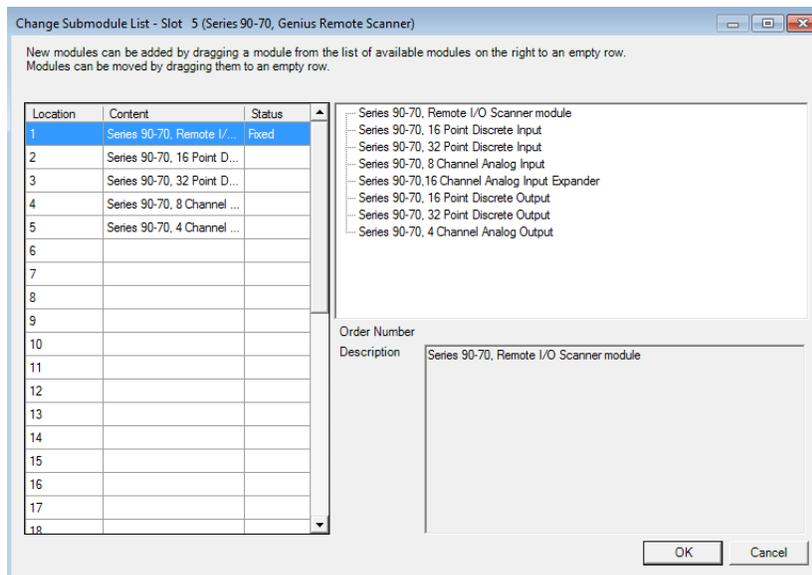

Figure 18: Populating Slots in S90-70 Rack Controlled by Remote I/O Scanner (BEM733)
- b. Drill down into the BEM733. A display of rack I/O will be presented (Figure 18).